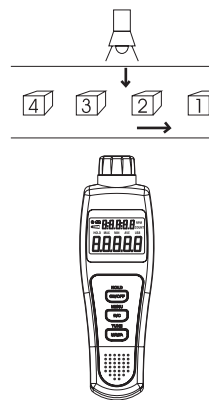

Figure 5
Receiving Light Source Outside (See Figure 5)
- Locate the Meter, objects under counts and light source as shown in Figure 5.